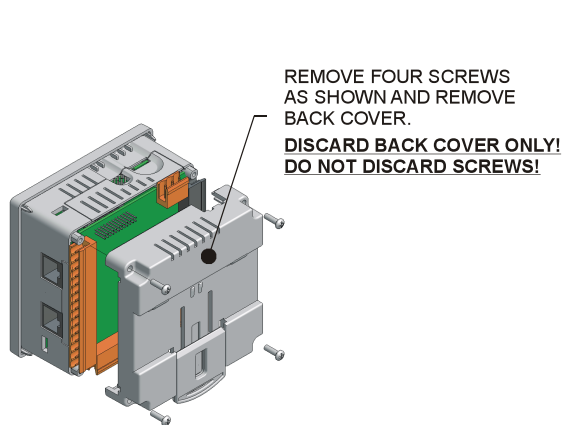

Figure 1 - Removing Back Cover of the XLe
2. Remove the four screws on the back of the XLe unit and remove the back cover. The back cover can be discarded or saved, but it will be replaced with the extended back cover that ships with the communication add-on. Screws are re-used (Figure 1).